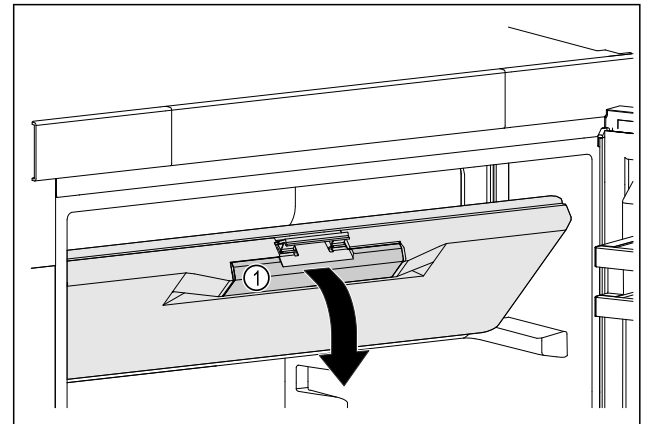

Fig. 75
- ▶ Hold the freezer compartment door by the recessed handle Fig. 75 (1).